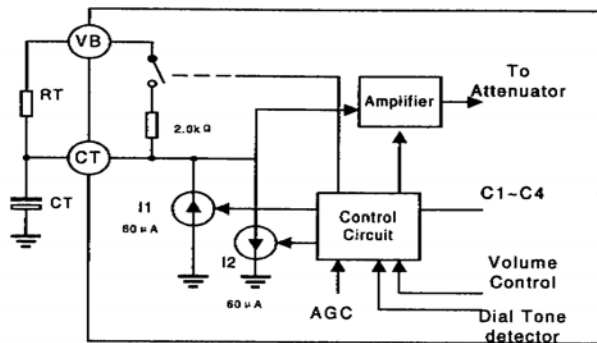

Fig. 5. CT Attenuator control block circuit
4. The circuit will switch to the slow idle mode when: (A) both talkers are quiet(no speech present) or (B) when one talker's speech level is continuously over-ride by noise at the other speaker's location. The time required to switch the circuit between transmit, receive, fast idle, and slow idle is determined in part by the components at the CT pin(pin14), (see the section on switching timers for a more complete explanation of the switching time components. A schematic of the CT circuitry is shown in Figure 5, and operates as follows: